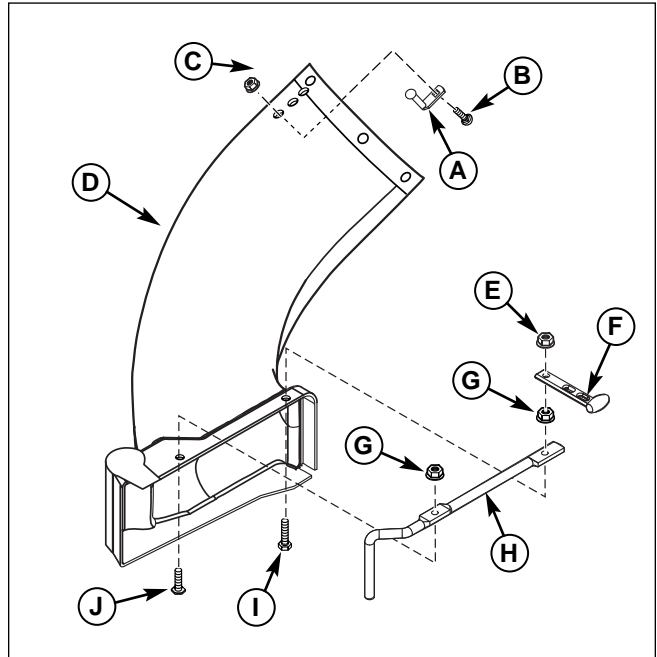

Figure 8. Install Lower Chute and Pin to Boot
1. Insert the head of pin (A, Figure 8) through front hole of lower chute (D). Secure with 1/4-20 x 5/8 carriage bolt (B) and 1/4-20 lock nut (C) as shown.
2. Install the rod (H) to lower chute (D) using 5/16-18 x 1 cap screw (J) and 5/16-18 locknut (G) for front holes. Use 5/16-18 x 1-1/4 cap screw (I) and 5/16-18 locknut (G) as shown. Tighten hardware.
3. Install the rubber strap (F) onto cap screw (I) securing with 5/16-18 locknut as shown.